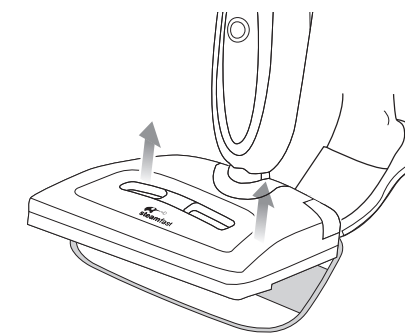

Figure 3
4. To remove, use your foot to press down on Microfiber Pad while simultaneously pulling the unit up and away from Microfiber Pad (Figure 3).